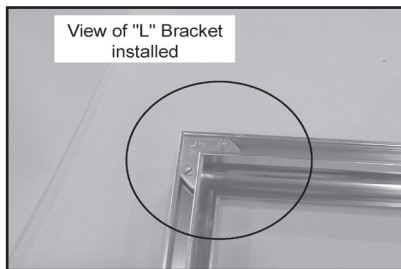

Figure 20.2
2. Assemble the trim with the (2) corner brackets provided. **Figure 20.2**